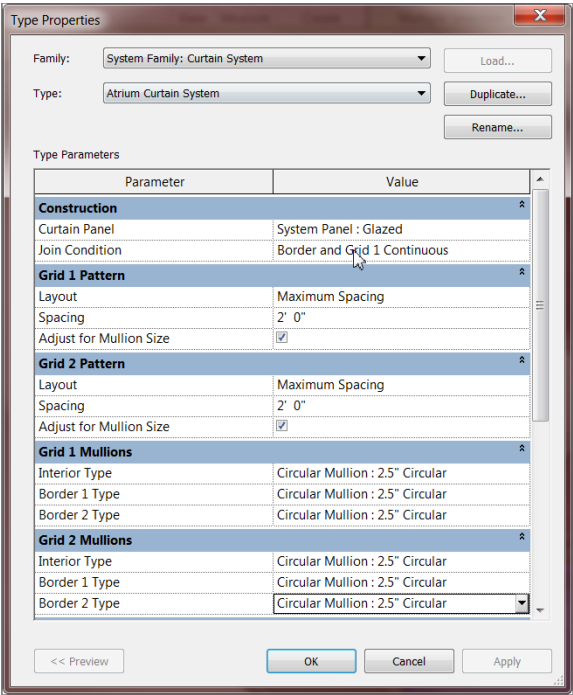

FIGURE 16.49: Configuring the curtain system
9. For the Grid 1 and Grid 2 mullions, select **Circular Mullion : 2.5"** (50mm Radius) **Circular** for Interior Type as well as the **Border 1** and **2** types, as shown in Figure 16.49.